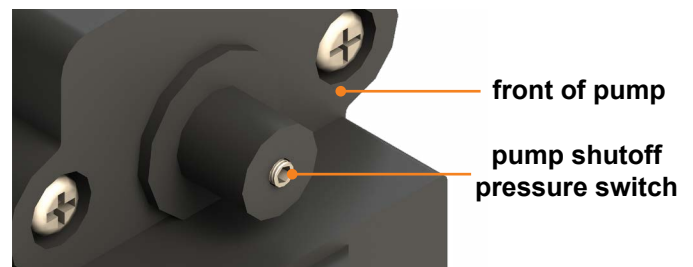

Fig.3
4. Pump may be mounted in any position. However, if pump is mounted vertically, the pump head (**Fig.3**) should be in the down position to avoid leakage into the motor casing during a malfunction.
To reduce rapid cycling, the pump shutoff pressure switch setting (**Fig.3**) can be increased by turning the screw clockwise 1 ½ turns maximum.
Check if pressure switch shutoff (Fig. 3) needs adjustment.
Check pressure switch operation. Refer to shutoff adjustment for switch (Fig 3).